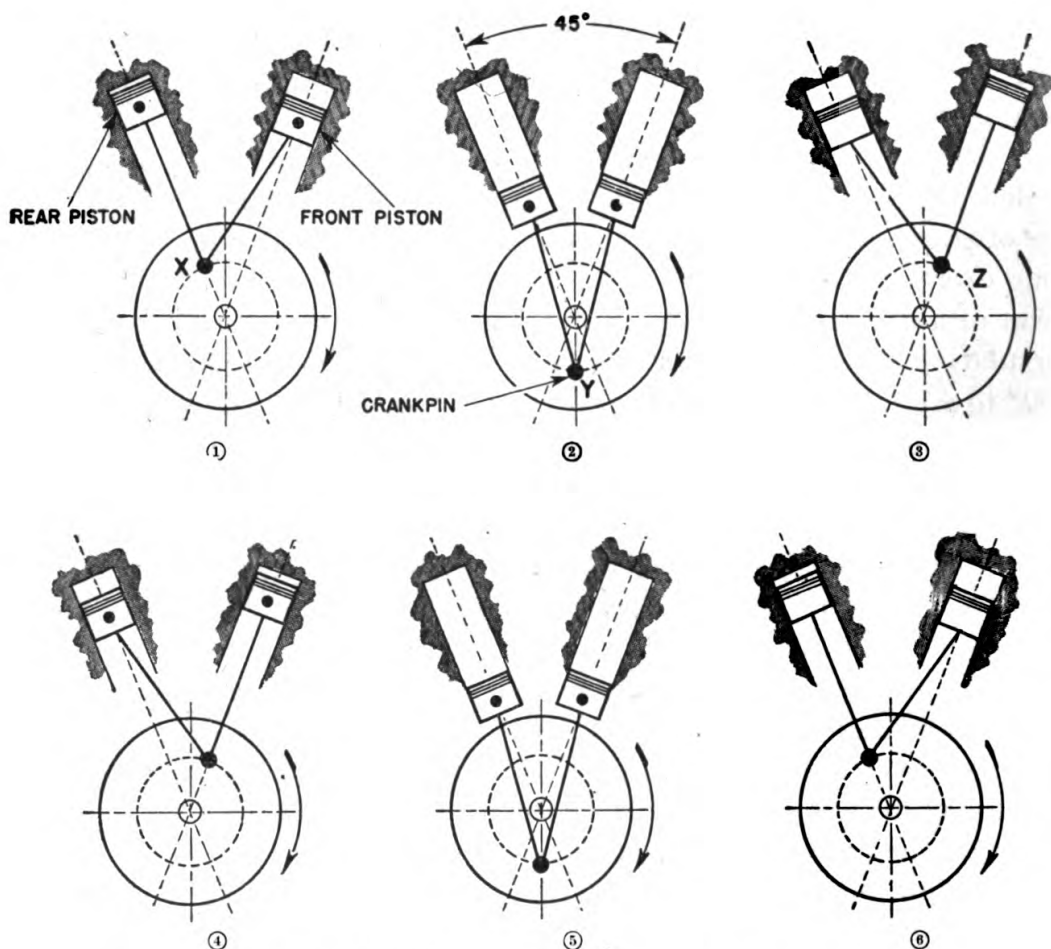

FIGURE 55.—Irregularity of power stroke of two-cylinder V-type engine.
*d.* The two cylinders on chain-driven models are placed on the crankcase at an angle (V) of  $45^{\circ}$  in Harley-Davidson and  $42^{\circ}$  in Indian motorcycles. The connecting rods for both cylinders are attached to a single crankpin, as shown in figure 55. Because of this V-type construction in a two-cylinder engine, it is impossible to obtain even firing and smooth engine operation, as will be apparent after studying the diagram of operation in figure 55.
(1) Assume the rear piston in figure 55① is at top dead center (T.D.C.), just commencing its power stroke; the front piston is therefore on its intake stroke. The crankpin is at X. In ②, both pistons are at bottom dead center (B.D.C.). The rear piston is about to begin the exhaust stroke and the front piston is about to begin the compression stroke with the crankpin at Y. For the front piston to reach T.D.C., from position in ①, the crankpin must continue rotating  $45^{\circ}$  past point X to point Z. This means that the flywheel rotates a total of  $405^{\circ}$  from the beginning of the rear piston power stroke to the beginning of the front piston power stroke.
(2) Likewise, when the front piston commences its power stroke, as in ④, the rear piston commences its intake stroke. When both pistons have reached B.D.C., as in ⑤, the front piston is about to begin